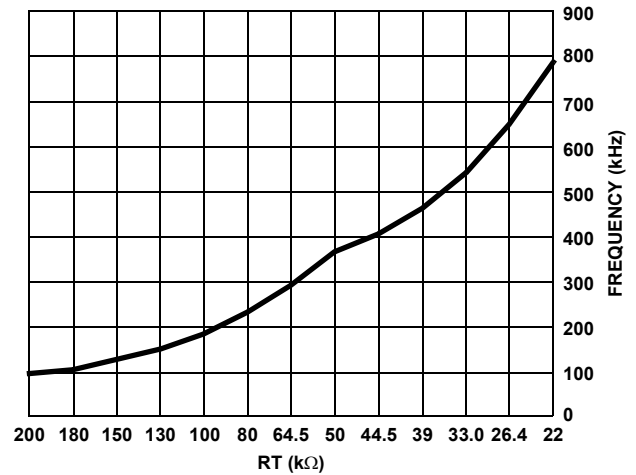

FIGURE 3. FREQUENCY vs RT
**RT** - Connect an external resistor from this pin to ground for frequency selection. Refer to RT vs Frequency curve of Figure 3.
The ISL6406 offers adjustable frequency from 100kHz to 700kHz by changing external resistor connected at pin RT. Figure 3 shows the typical RT vs Frequency variation curve.